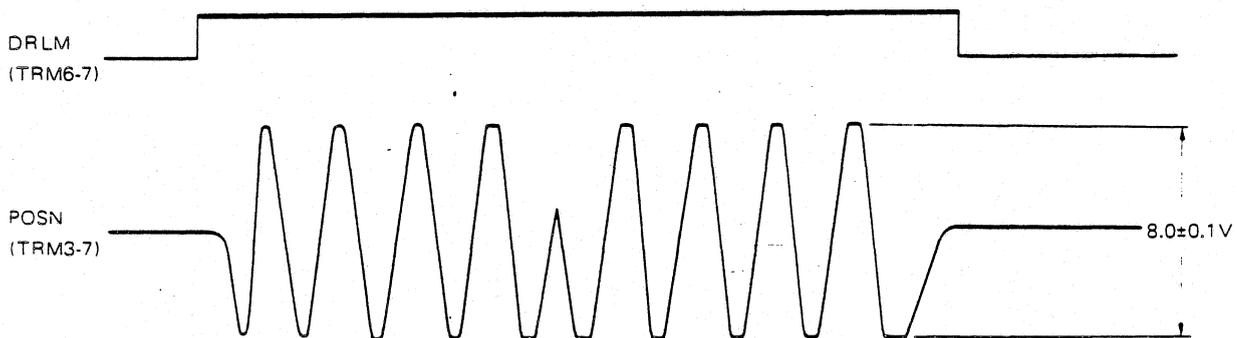

Figure 6-6-4 Position Signal Gain Adjustment
(1) Position Signal Gain Adjustment (CZOM-RV4)
- ① Confirm that drive has normal status.
- ② Repeatedly issue an RTZ command from Cylinder 0.
- ③ Connect the test point TRM6-7 (DRLM) to one vertical input channel of an oscilloscope and trigger with the positive-going edge of the signal on CZOM PCB assembly (DC coupled).
- ④ Connect the test point TRM3-7 (POSN) to the other vertical channel of the oscilloscope (DC coupled).
- ⑤ Adjust potentiometer RV4 so that POSN signal amplitude is $8.0V \pm 0.1V$ (peak-to-peak). Refer to Figure 6-6-4.